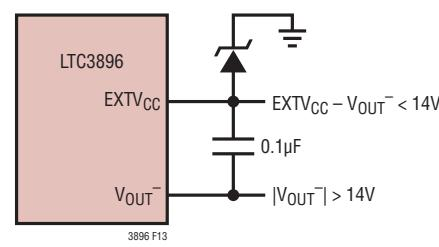

Figure 13. Using a Zener Diode Between $EXTV_{CC}$ and Ground
4. $EXTV_{CC}$ connected to ground through an external Zener diode. If the output voltage is more negative than -14V , a Zener diode can be used to drop the necessary voltage between ground and $EXTV_{CC}$ such that $EXTV_{CC}$ with respect to V_{OUT}^- remains below 14V (Figure 13). In this configuration, a bypass capacitor from $EXTV_{CC}$ to V_{OUT}^- of at least $0.1\mu\text{F}$ is recommended. An optional resistor between $EXTV_{CC}$ and V_{OUT}^- can be inserted to ensure adequate bias current through the Zener diode.